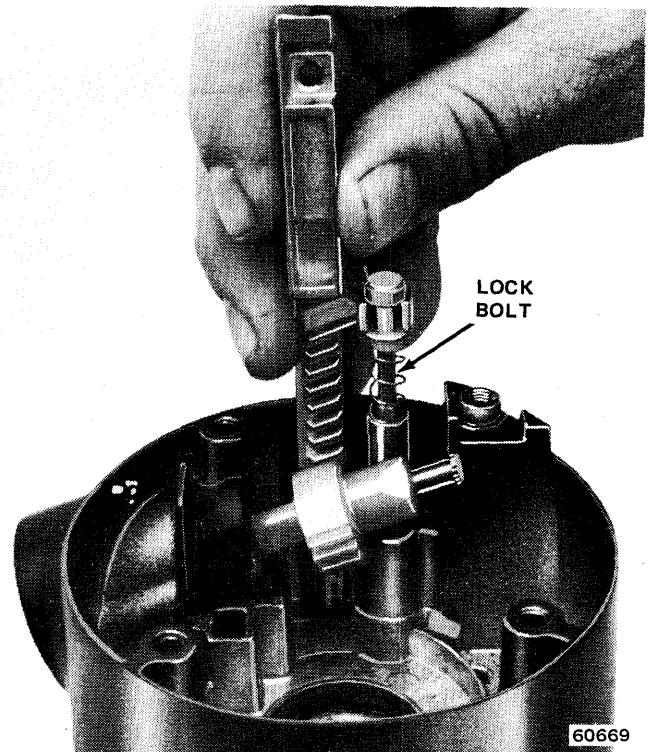

Fig. 11-12 Removing Lock Rack and Lock Bolt
- (24) Remove lock rack and lock bolt assembly (fig. 11-12).